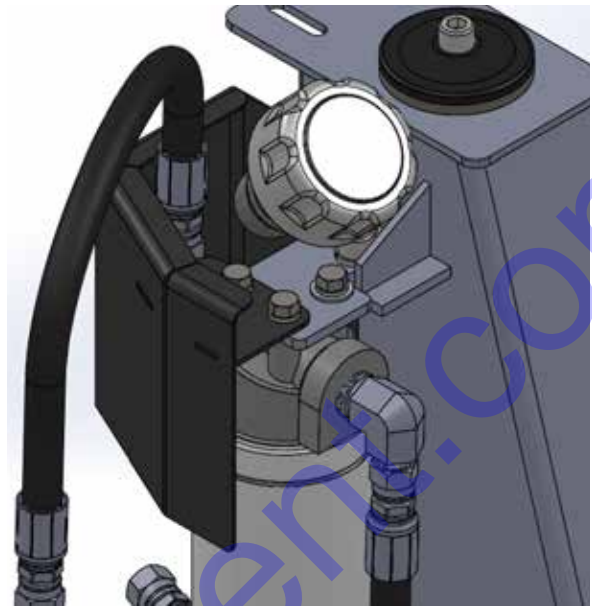

Figure 13. Complete Assembly
2. Reference Figure 13 for complete assembly.